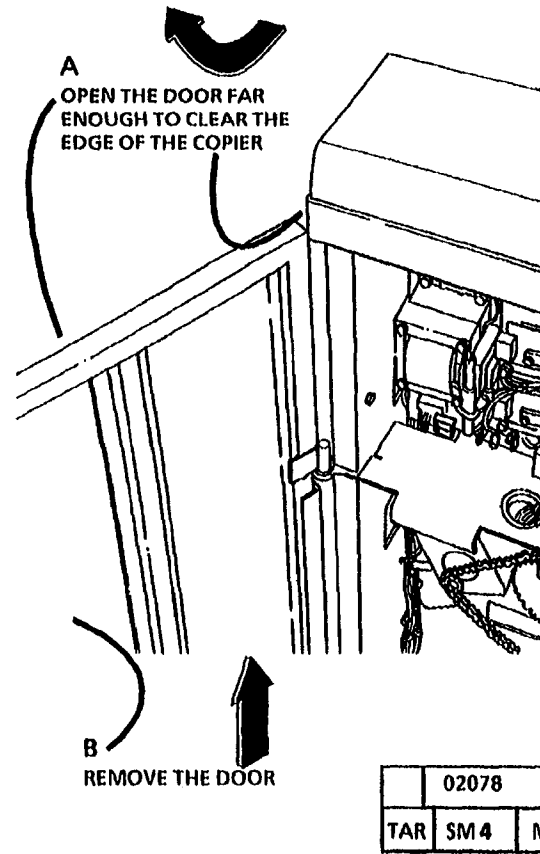

Figure 1. Remove the Left Side Door
3. (Figure 1): Remove the Left Side Cover.